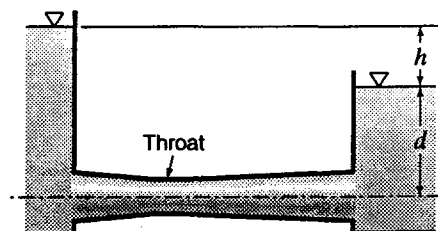

Figure P5.26
5.27 Referring to Fig. P5.26, assume water is flowing and neglect all head losses except at discharge. Find the flow rate if $h = 1.6$ m. Assuming that $d = 4$ m, the throat diameter is two-third the pipe diameter where it joins the downstream tank, and the atmospheric pressure is equal to the standard atmospheric pressure at 2000 m elevation, calculate the gage pressure and the absolute pressure in the constriction. The throat diameter is 360 mm.